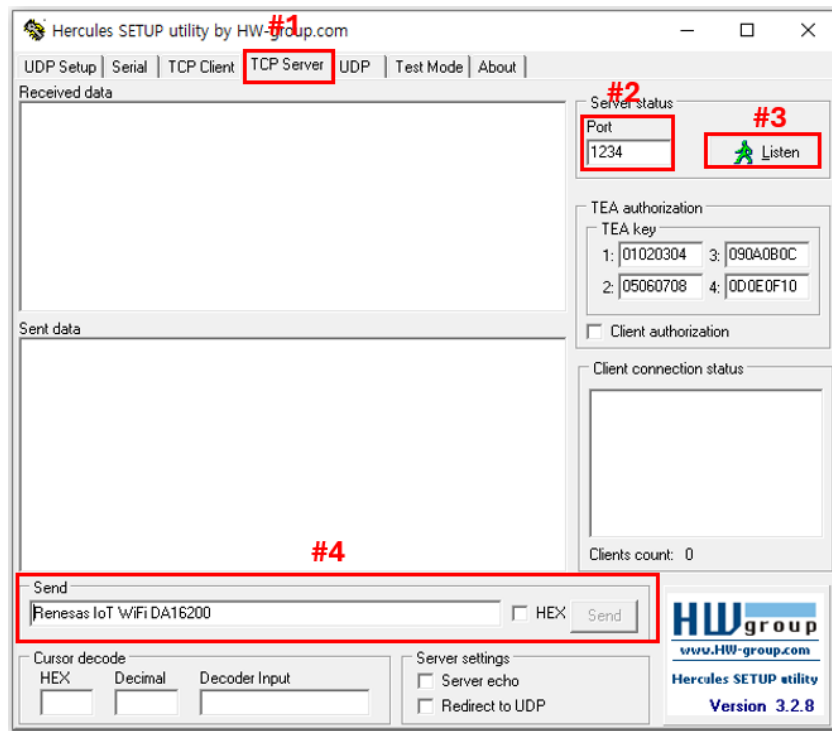

Figure 28. Hercules – TCP server socket setting
- a. Select TCP Server (#1, see Figure 28).
- b. Enter the port number to be used (#2, see Figure 28).
- c. Click Listen to start to Listen (#3, see Figure 28).
- b. Send data (#4, see Figure 28).